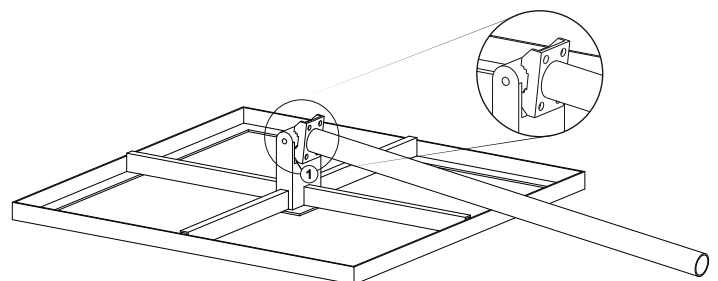

Fig. 2: Inserting the Mast
3. Place the mast sideways onto the cylinder in the middle of the frame (① in Fig. 2).